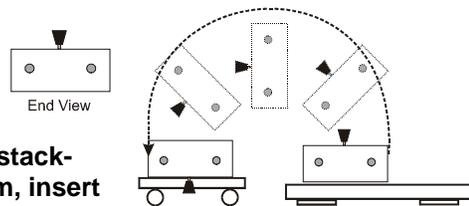

**Figure 7. Remove the tricep back rest, the top plate and the guide rods.**
**Hardware Figure 7. Floating pulley.**